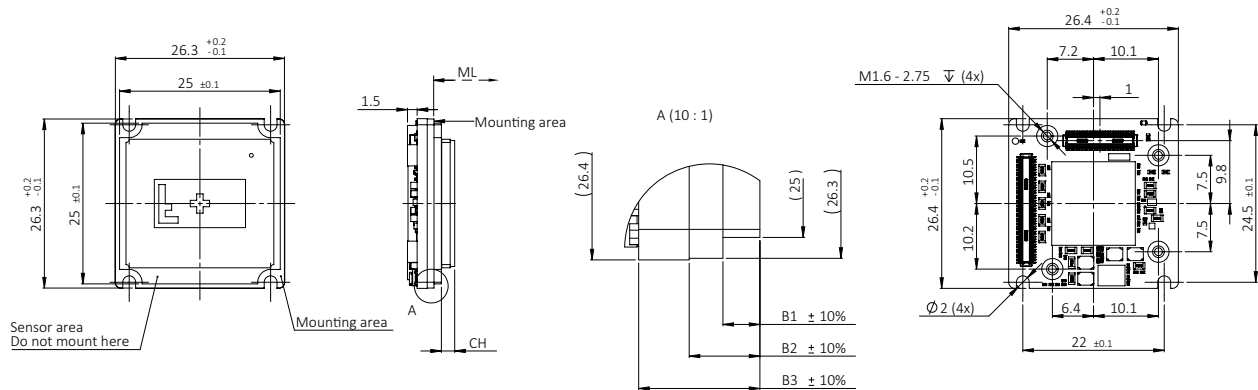

Figure 77: Bare Board (Alvium Flex) dimensions
Dimensions that are common between different models are shown in Figure 77, model specific dimensions are listed in Table 99. **Mechanical length (ML)** defines the mechanical distance from the mounting area to the lens mount front flange, without optical filter. **Components height (CH)** relates to the electronic components with maximum height, sometimes the sensor.